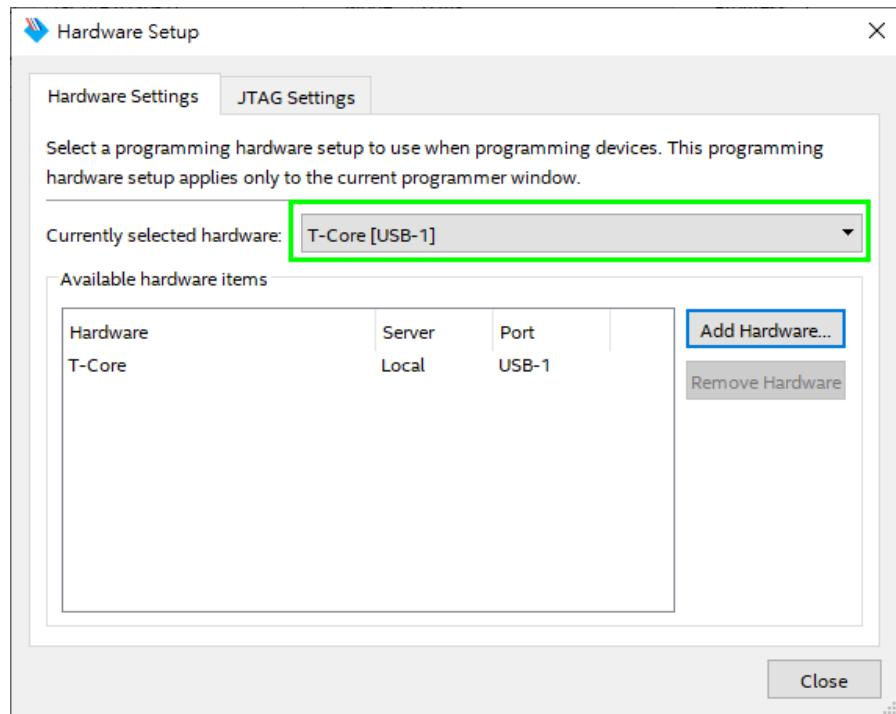

Figure 2-4 Hardware Setting
3. If it is not already turned on, turn on the USB-Blaster [USB-0] option under currently selected hardware and click “Close” to close the window. See **Figure 2-4**.